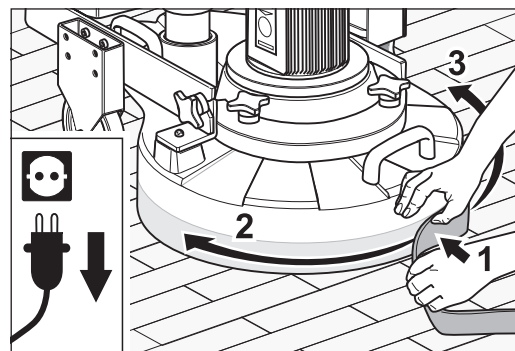

Fig. 12 Fix the Velcro sealing tape around the bottom edge of the machine housing.
- 11 Fix the Velcro sealing tape around the bottom edge of the machine housing in such a way that the two loose ends meet on the rear side (fig. 12). For optimum suction, there should be a gap approx. 1 mm wide between the lower edge of the sealing tape and the floor.